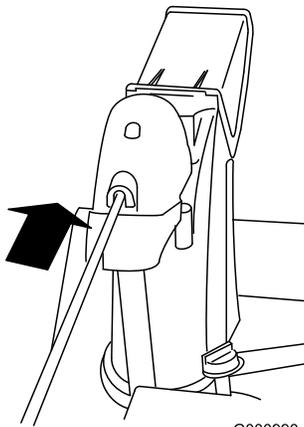

Figure 15
- 4. Insert the front end of the rod into the opening in the back of the chute gear cover until it slides into the chute gear (Figure 15).